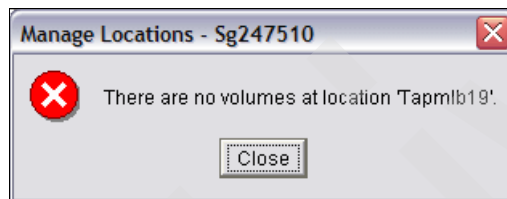

Figure 6-14 Manage Locations - No volumes
7. You might see an error message window similar to the one shown in Figure 6-14.